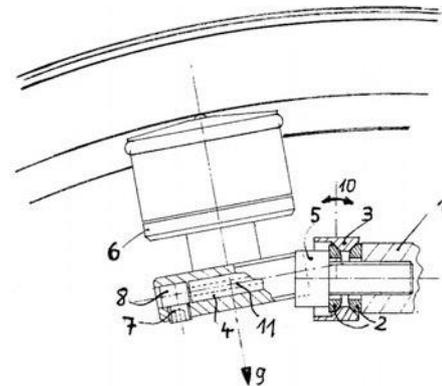

Figure 1
With 11 ° tilt angle, this adapter (see Figure 1) is designed for the usual fork geometry on 26" and 28" wheels. Instead of the left front boss, it can also be fitted to the right-hand rear brake boss on many bikes. The assembly steps are identical:
- 1) Remove the M6 screw (5 in Fig. 1) holding the brake on the boss (1).
- 2) Make sure that the convex faces of the spherical washers (2) lie against the adapter. Place the adapter (3) without dynamo horizontally in front of the boss so that the tube (4) points forward and tighten loosely. **Caution:** Ensure that the M6 screw is screwed into the base thread at least five turns/threads deep, otherwise the safe function of the brake will be impaired.
- 4) Height adjustment: Slide the dynamo (6) onto the tube with the connecting cables pointing outwards and turn the adapter until the O-ring of the dynamo rests approximately in the center of the rim.
- 5) Side-to-side adjustment: This is not possible with this adapter and usually not necessary, because brake bosses have a standard spacing. With narrow rims, sloping rim flanks or deviating special designs, it may be necessary to mount the dynamo "turned around" so that it moves closer to the rim. In this case, the connection cables point to the wheel and the grub screw (7) is moved so that it never presses on the brass tube (4) but always on the stainless steel head (8).
- 6) Angle adjustment: The imaginary extension of the dynamo axis (9) should intersect the wheel axis as precisely as possible to avoid friction and wear. The adapter can be swiveled (10) in its ball mount for this purpose.
- 8) Adjust contact pressure: Leave the operating lever in the folding position (bracket perpendicular to the adapter), grease the brass tube and housing bore and push the dynamo onto the tube as far as it will go. Swivel the dynamo until the distance between the O-ring and the rim is 2mm and pre-tighten the M4 grub screw (7) against the stainless steel head (8) in this position.
- 9) Check the contact pressure: Lift the operating lever out of the notch and let it engage in the „on“ position. The torsion spring (11) should now press the dynamo against the rim with clearly perceptible pre-tension and smoothly, which you can check by lifting it off the rim a few millimeters several times and letting it snap back.